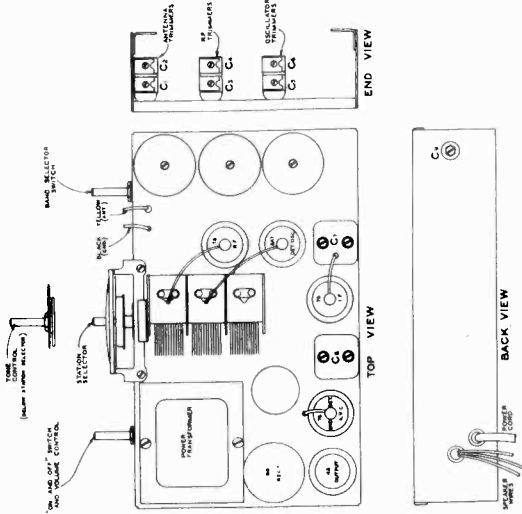

FIG. 7. CHASSIS DIAGRAM FOR SPARTON MODELS 67, 68, AND 691
- (3) Tune test oscillator to obtain a signal of 345 kilocycles.
- (4) Turn the volume control of receiver on full, and place Band Selector Switch in Broadcast Position.
- (5) Adjust I. F. condensers C_1 and C_2 . (See Fig. 7.)
- (6) The dial pointer should point to the lowest calibrated frequency mark on the broadcast section of the kilocycle scale (dial division between 55 and horizontal line). If the dial pointer reads incorrectly, it may be reset by first loosening the nut on the planetary drive and drum (back of the Station Selector knob), then resetting the pointer while holding the rotor plates completely in mesh with the stator plates, and then tightening the nut.